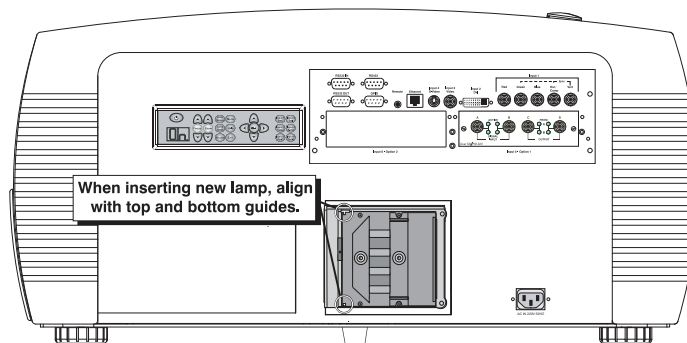

Figure 5-4. Installing A New Lamp
5. Align the new lamp with the top and bottom guides on the left side of the lamp compartment; see Figure 5-4. Slide the lamp all the way in. A slightly harder push may be required right at the end to make sure it is fully seated into the terminal block. **NOTE:** The projector will not power up again if the lamp is not fully connected to the terminal block.